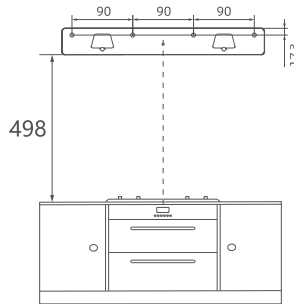

Fig 5
- As shown in Figure 5, determine the drilling position and use an impact drill to drill 4 holes of $\phi 10\text{mm}$ (depth 50mm); then insert the $\phi 10 \times 50\text{mm}$ expansion tube into the drilled holes (it is forbidden to use expansion tubes and screws with worse load-bearing performance than the standard). Align the fixing holes of the entire hanging plate with the holes of the embedded expansion tube, and then use 4 ST5 \times 50mm wood screws to connect and fix the entire hanging plate to the wall.